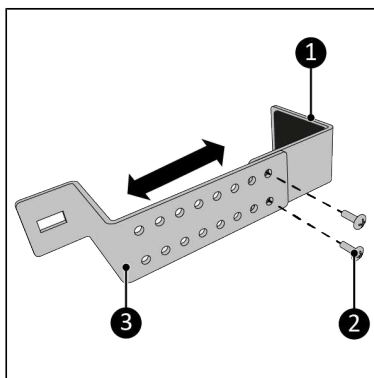

Figure 68.
3. Screw the top part (Figure 68, pos. 1) and the bottom part (Figure 68, pos. 2) together using the two M5 x 7 mm screws (Figure 68, pos. 3). Make sure the width is slightly larger than the width of the window frame.